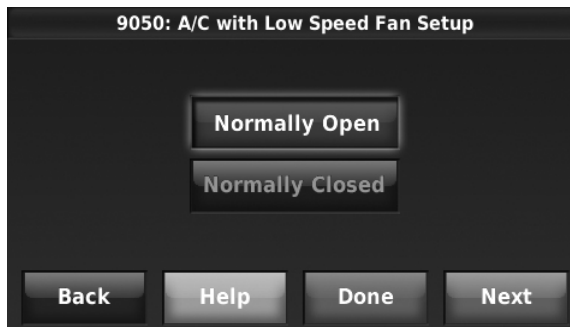

Fig. 239.
- Select whether the U1, U2, or U3 terminals are Normally Open or Normally Closed. See Fig. 239.